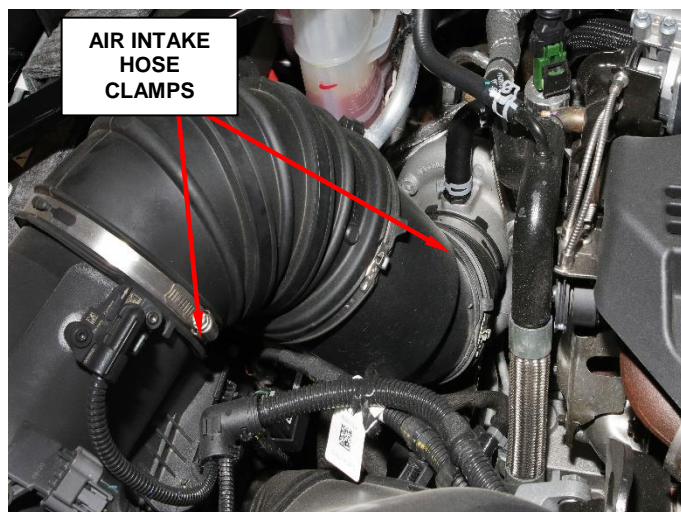

Figure 6 – Air Intake Hose
3. Loosen the air intake hose clamp and remove the clean air hose from turbocharger (Figure 6).
4. Loosen the air hose clamp from the air cleaner housing and remove the clean air hose (Figure 6).
10. Connect the intake air heater relay wire harness connector (Figure 6).
11. Install the clean air hose and securely tighten the clamp (Figure 6).